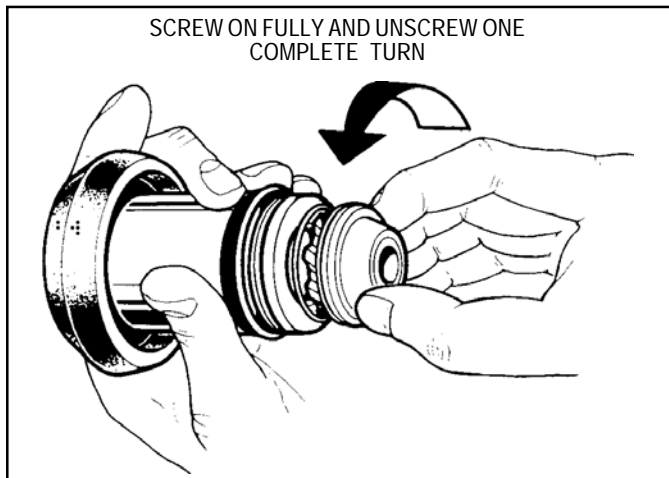

FIGURE 22 - PISTON ADJUSTER
2. Lubricate the adjuster shaft with DOT 4 brake fluid and screw the adjuster shaft fully into the piston assembly, then unscrew one full turn, *Figure 22*.